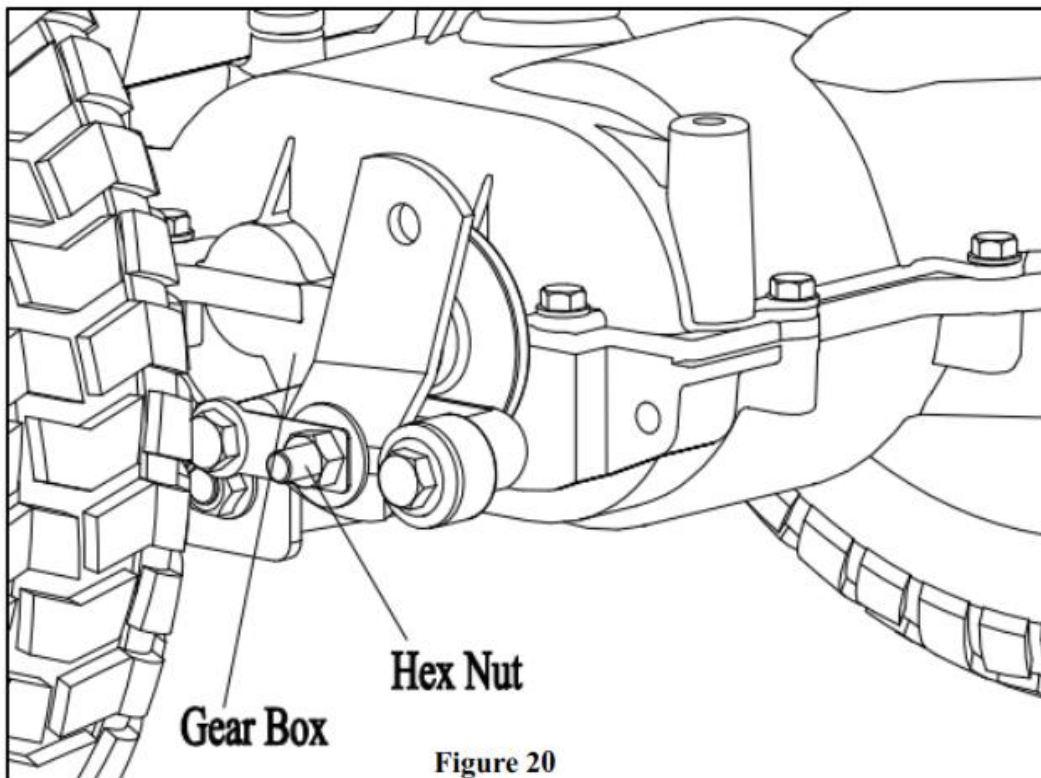

Figure 20
Completely push the **clutch/brake pedal** forward. Set the **parking brake**. Move the **shift lever** to the **NEUTRAL (N)** position. Push the unit. If the rear wheels rotate, adjust the drive brake as follows (Figure 20).